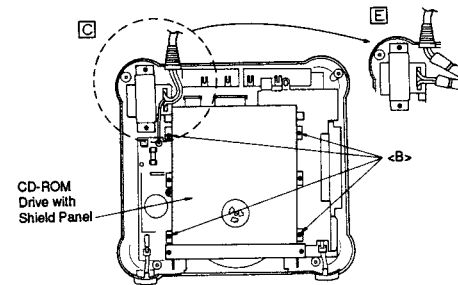

Figure 2
- (1) Remove four screws (2.6 × 8 mm) as shown in Figure 2.